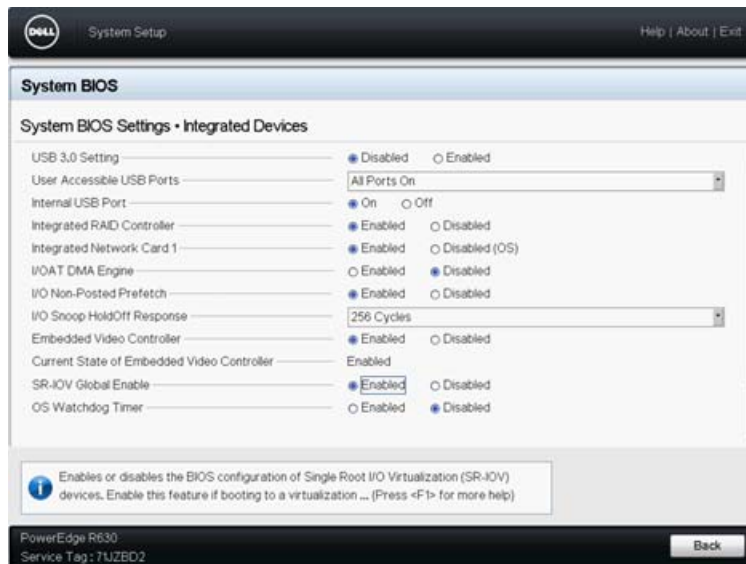

Figure 8-1. System Setup for SR-IOV: Integrated Devices
3. On the Integrated Devices page (Figure 8-1):
3. On the System Integrated Devices page (see Figure 8-1 on page 87):